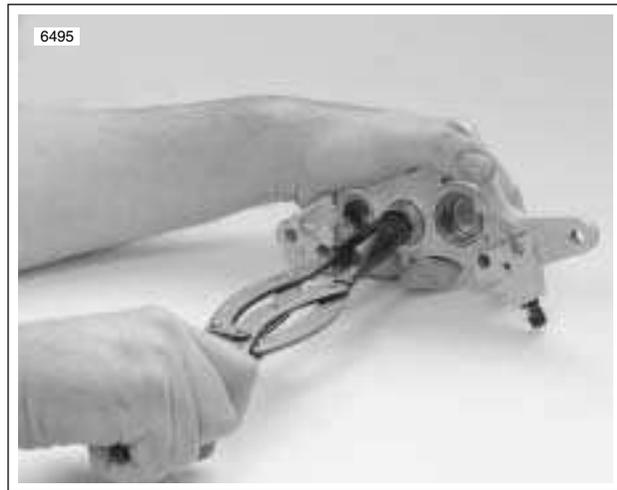

Figure 2-31. Removing Pistons
3. See Figure 2-31. Use BRAKE CALIPER PISTON REMOVER (Part No. B-42887) without adaptor to pull the six pistons from caliper bores.